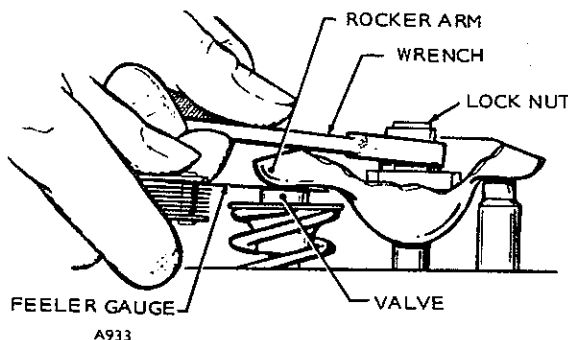

FIGURE 15-19. VALVE ADJUSTMENT
2. Using a feeler gauge, check clearance between rocker arm and valve. See Figure 15-19.